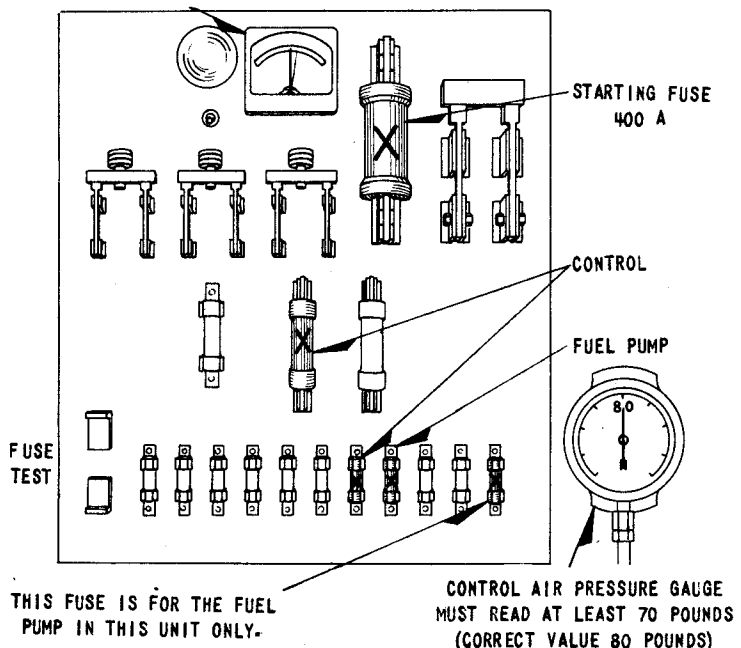
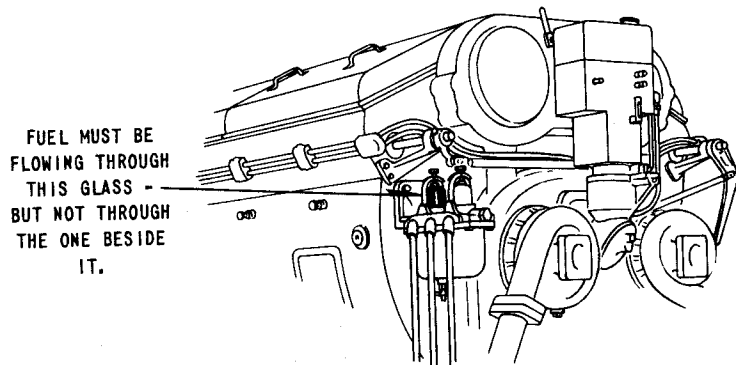
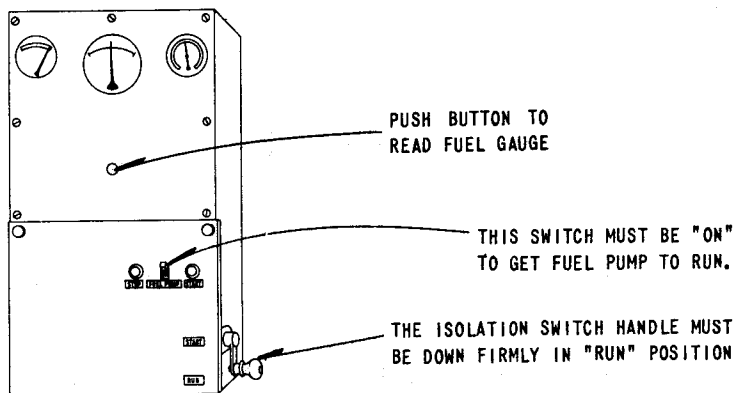
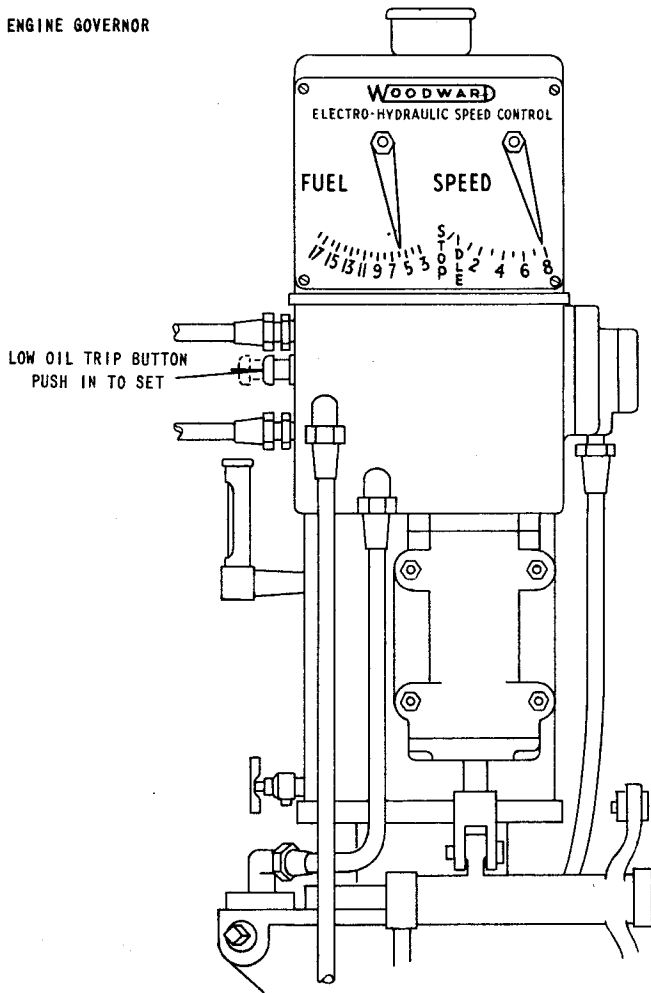

Fig. 5-3
Fig. 5-4
Fig. 5-5
Fig. 5-11
- e. All switches in each distribution panel must be closed (Fig. 5-3).
If only the fuel pump in one unit is stopped, be sure the switch on the engine control panel (Fig. 5-5) is turned on and the control and fuel pump motor fuses in that unit (see Fig. 5-3) are O.K.
6. IF THE FUEL PUMP IS RUNNING BUT FUEL DOES NOT SHOW IN THE FUEL RETURN SIGHT GLASS (Fig. 5-4) WHAT CAN BE DONE?
Pull the isolation switch handle up into "START" position (Fig. 5-5). Make certain the switches on the distribution panel in this unit are closed and the fuses good (Fig. 5-3).
Then be sure fuel pump switch is "ON" (Fig. 5-5), and check the fuel return sight glass for a good flow of fuel (Fig. 5-4).
Be sure the low oil pressure trip button on the governor is pushed in so the red part of the shaft is not showing (Fig. 5-11).
When the engineer has the throttle in Run 8 pulling a train, the plate on the governor should appear as in Fig. 5-11. If the right hand scale does not read 8 but reads idle, the isolation switch may not be in "RUN" or the ground protective relay may be tripped. If the right hand scale shows 8 but the number on the left hand scale reads 8 to 10, the engine is not loaded and there is probably electrical trouble. Check the battery field fuse; it may be blown (See Fig. 5-8) or the control air (Fig. 5-3) may be low.